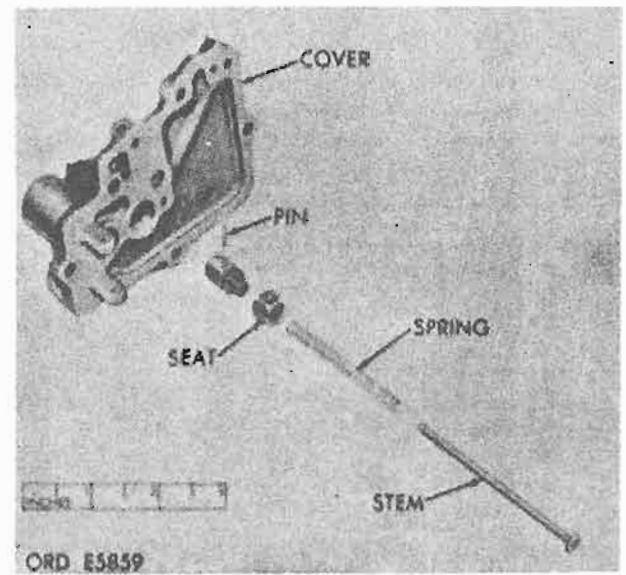

Figure 5-12. Power valve actuating piston assembly.
- (6) Remove power valve actuating piston and stem assembly (fig. 5-12).
e. *Cover Assembly.* Install power valve actuating piston and stem assembly (fig. 5-12).